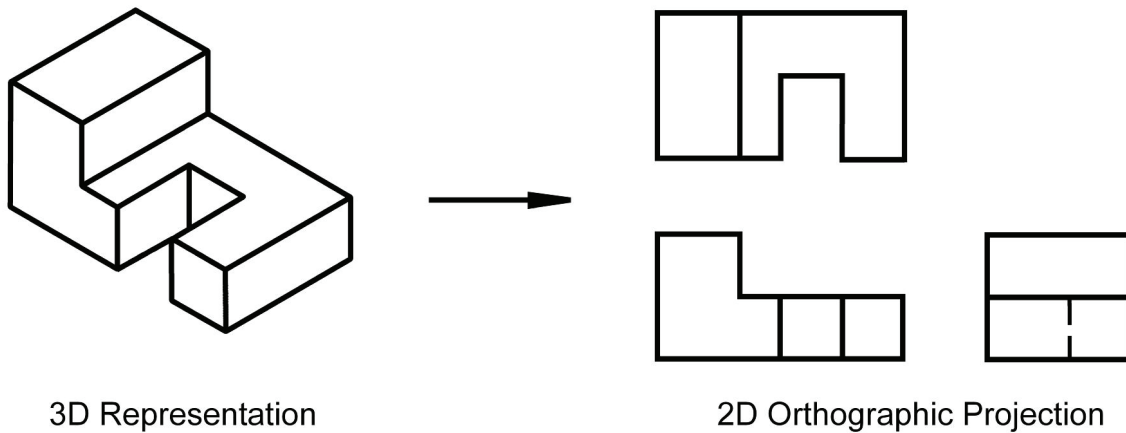

Figure 2-1: Orthographic projection.
***An orthographic projection enables us to represent a 3-D object in 2-D*** (see Figure 2-1). An orthographic projection is a system of drawings that represent different sides of an object. These drawings are formed by projecting the edges of the object perpendicular to the desired planes of projection. Orthographic projections allow us to represent the shape of an object using 2 or more views. These views together with dimensions and notes are sufficient to manufacture the part.